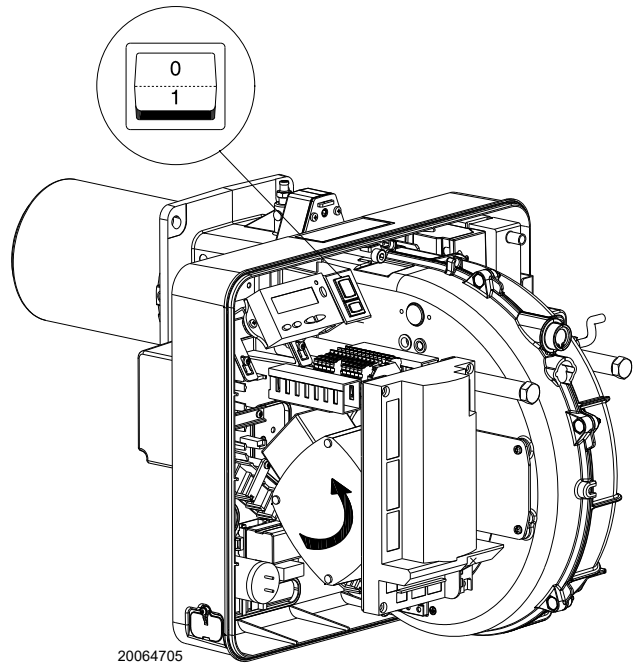

Fig. 32
Close the thermostats/pressure switches and turn the switch of Fig. 32 to position "1".
As soon as the burner starts up, go in front of the cooling fan of the fan motor and check it is rotating anticlockwise. See Fig. 32.
- place the switch of Fig. 32 in position “0” and wait for the control box to carry out the switch-off phase;
The burner is in the heat request waiting mode, or the selector “0-1” (Fig. 32 at page 32) is in the “0” position.